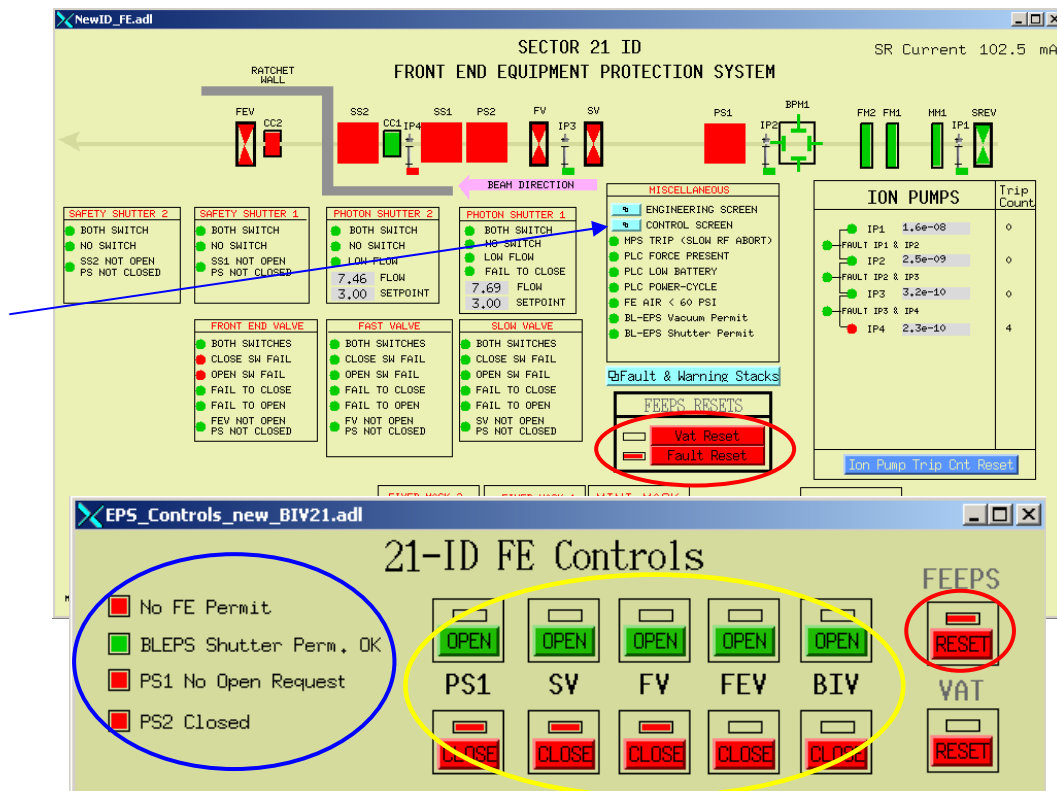

Figure 2: Path for Resetting FEEPS.
4. The Floor Coordinator or Operator may attempt to reset the FEEPS. Following the path shown in Figure 2, access the Beamline-Specific EPS_Controls screen.